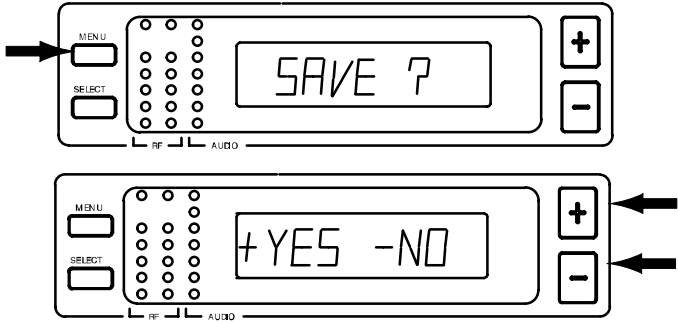

FIGURE 28
- Once you have reached the desired squelch level, press the MENU button. "SAVE?" appear, followed by "+ YES – NO", as shown in Figure 28. Press the – button to make more changes, or press + to save the new squelch setting and return to the Group/Channel/TV display.